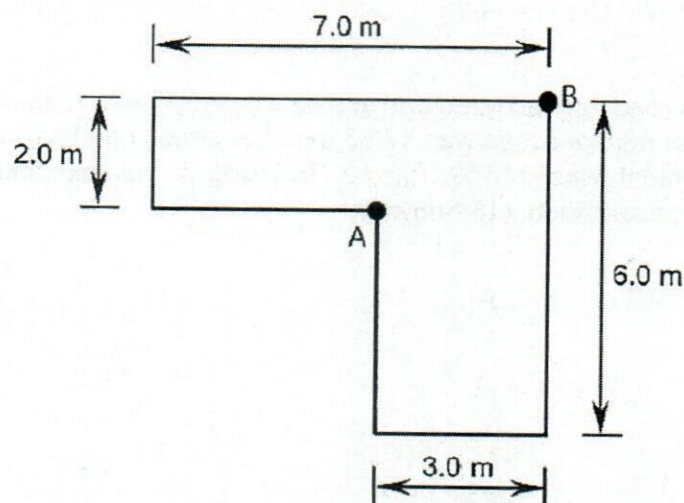

Figure 3
- b) An L-shaped foundation exerts a uniform pressure of 300kPa on a soil as shown in **Figure 3**. Find the vertical stress increments at points A & B at a depth of 2m below the foundation (12 marks)